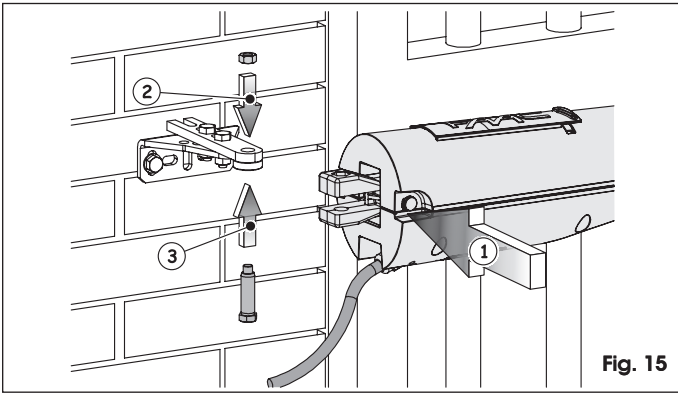

Fig. 15
- Secure the operator to the rear bracket using the appropriate bolt supplied, as indicated in figure 15.